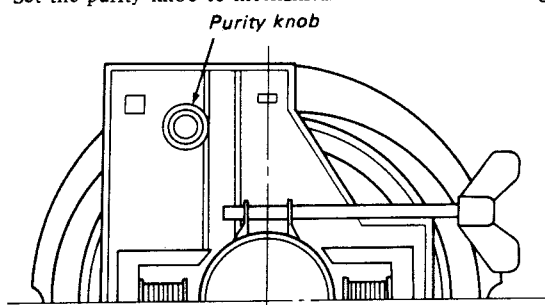

Fig. 1-1.
4. Set the purity knob as shown in Fig. 1-1.